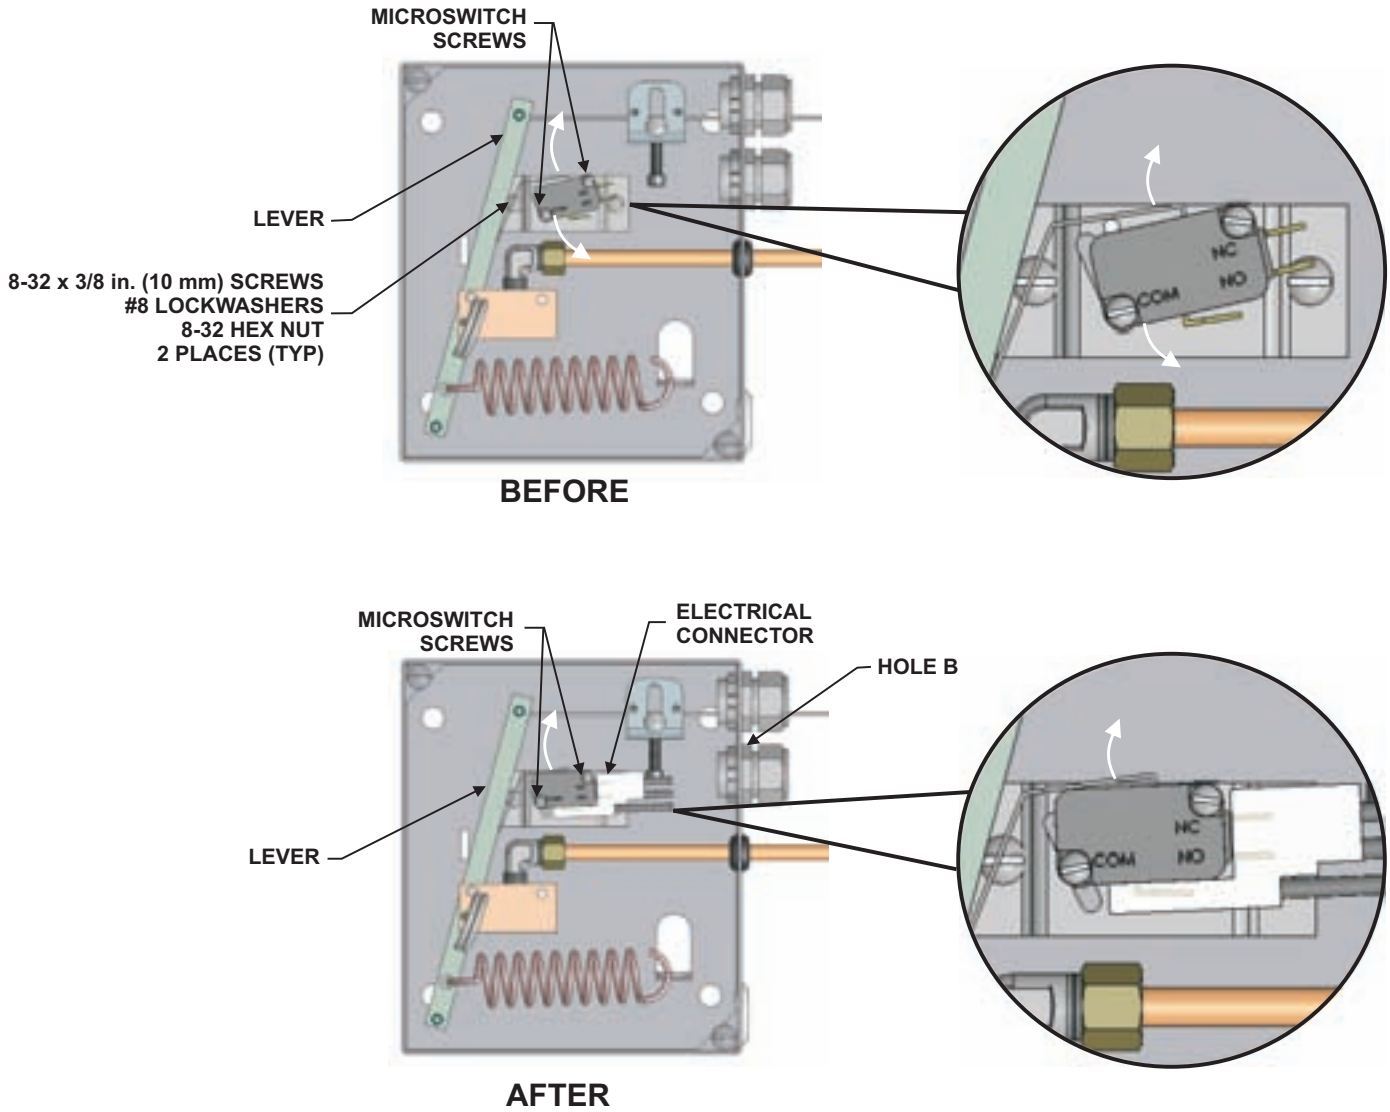

Figure 4-53. Dual SPDT Microswitch Installation
6. After tensioning the detection cable, rotate the microswitches toward the lever until you hear the microswitches click (Figure 4-53).
7. Continue moving the microswitches toward the lever until the paddle on the microswitches just touches the top corner of the microswitch bodies (Figure 4-53). The microswitches are now in the "set" position.